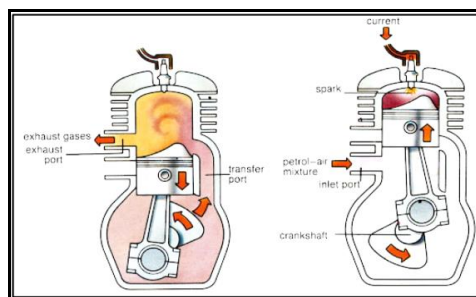

Figure 6 Two stroke petrol engine
- Check the Inlet port, outlet port and transfer port in the figure 6